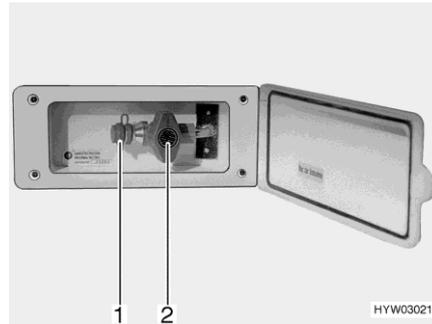

Fig. 172 External gas connection
- Connect the external gas device to the connection point (Fig. 172,1).
- Open the gas isolator tap (Fig. 172,2).